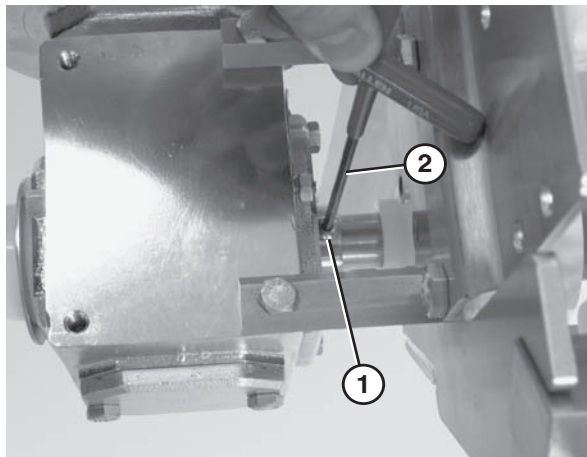

Figure 66
- Loosen the fasteners (**Figure 66, item 1**) that connect the gearmotor to the drive spindle using a hex wrench (**Figure 66, item 2**).